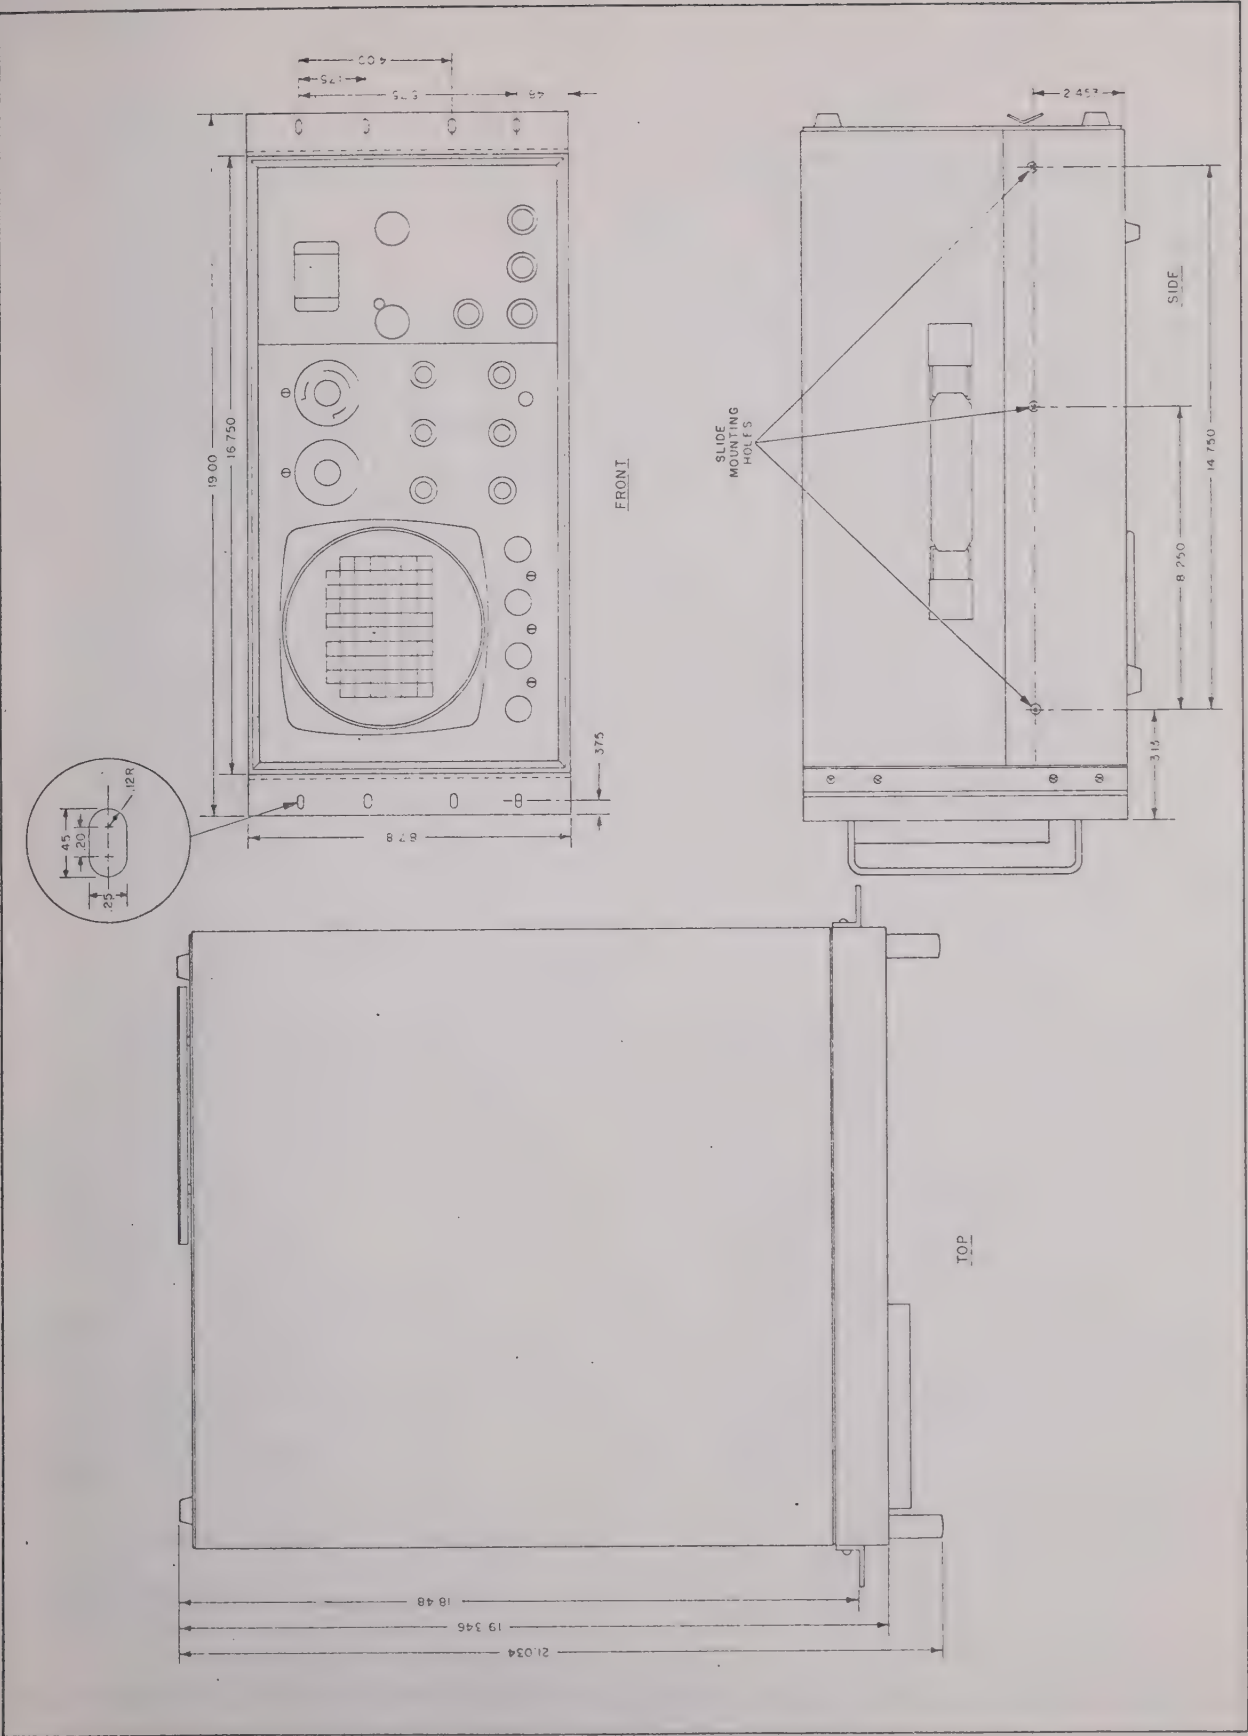

Figure 2-1. Installation Outline Drawing
a. Secure the rack mounting ears to the sides of the equipment (see figure 2-1). For conventional rack mounting, provide an angle bracket at the rear of the rack to support the weight at the rear of the equipment.
b. If the equipment is to be slide mounted, secure the slides to both the sides of the equipment (see figure 2-1) as well as the rack walls.